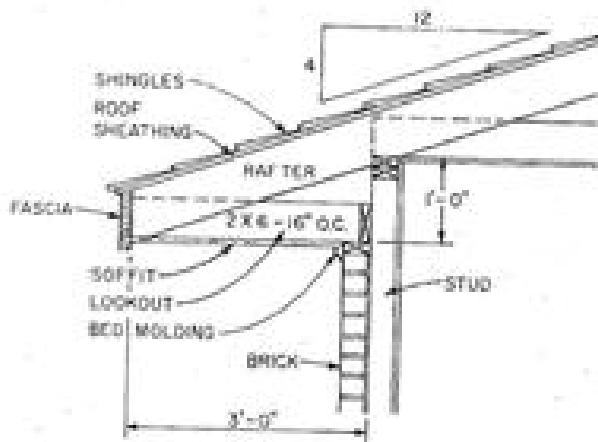

Figure IV.6 Details of a Cornice
**IV.2.4. Details** – Due to the scale at which construction drawings are usually made, certain features are not clearly shown on the plan, elevation, or sectional views. These features will require a large-scale illustration to provide information necessary for construction. In these situations a detailed drawing is used. Details are drawn at a larger scale than plans, elevations, and sections and usually take precedence over drawings shown in less detail. Figure IV.6 is an example for a detail drawing. Detail drawings may be placed on the same sheet as the plan or elevation views or on a separate sheet and referenced by detail and sheet number.